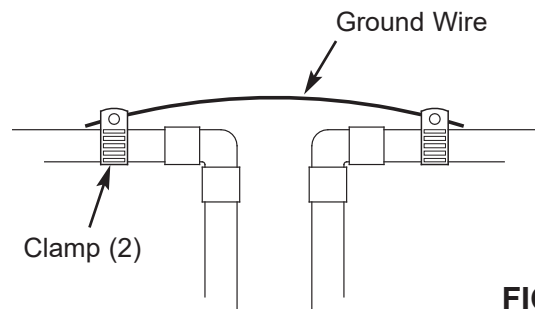

FIG. 14
1. Install a #4 copper wire across the removed section of main water pipe, securely clamping it at both ends (See Figure 14) - parts not included.